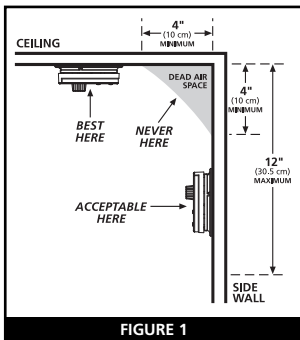

FIGURE 1
• If a ceiling mounting location is not feasible the next logical location for mounting heat alarms is on the side wall. When mounting the alarm on the wall, use an inside wall with the top edge of the alarm at a minimum of 4" (10 cm) and a maximum of 12" (30.5 cm) below the ceiling (see figure 1).
Modern mobile homes have been designed and built to be energy efficient. Install heat alarms as recommended above (refer to RECOMMENDED LOCATIONS and FIGURE 1).
In older mobile homes that are not well insulated compared to present standards, extreme heat or cold can be transferred from the outside to the inside through poorly insulated walls and roof. This may create a thermal barrier which can prevent the heat from reaching an alarm mounted on the ceiling. In such units, install the heat alarm on an inside wall with the top edge of the alarm at a minimum of 4" (10 cm) and a maximum of 12" (30.5 cm) below the ceiling (see figure 1).